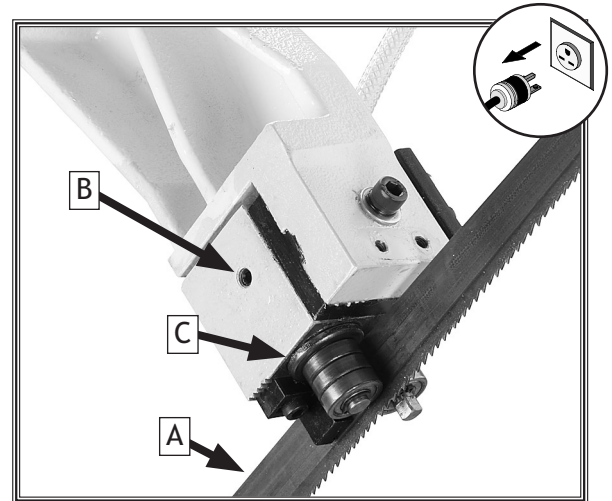

Figure 37. Blade guide adjustments.
The blade guide bearings are adjusted at the factory but due to shipping and storage may need adjustment. Use **Figures 37 & 38** to guide you through the following steps.
5. The back of the blade (A) in **Figure 37** should make light contact with the backing bearing (C).
- If it does not, loosen the set screw (B) shown in **Figure 37**, and move the bearing (C) up or down until it lightly touches the back of the blade.